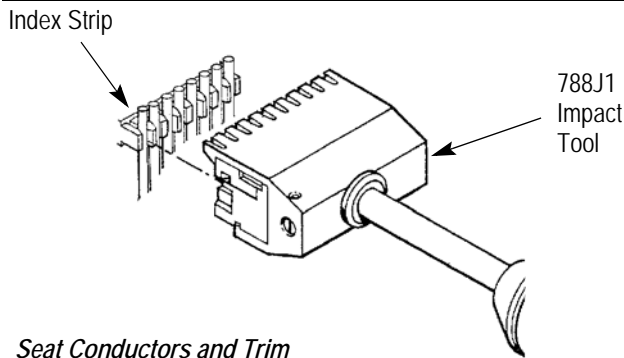

Figure 4
4. Use Impact Tool 558418-1 or the AT&T† 788J1 impact tool to seat conductor(s) and shear off conductor(s) end. See Figure 4.